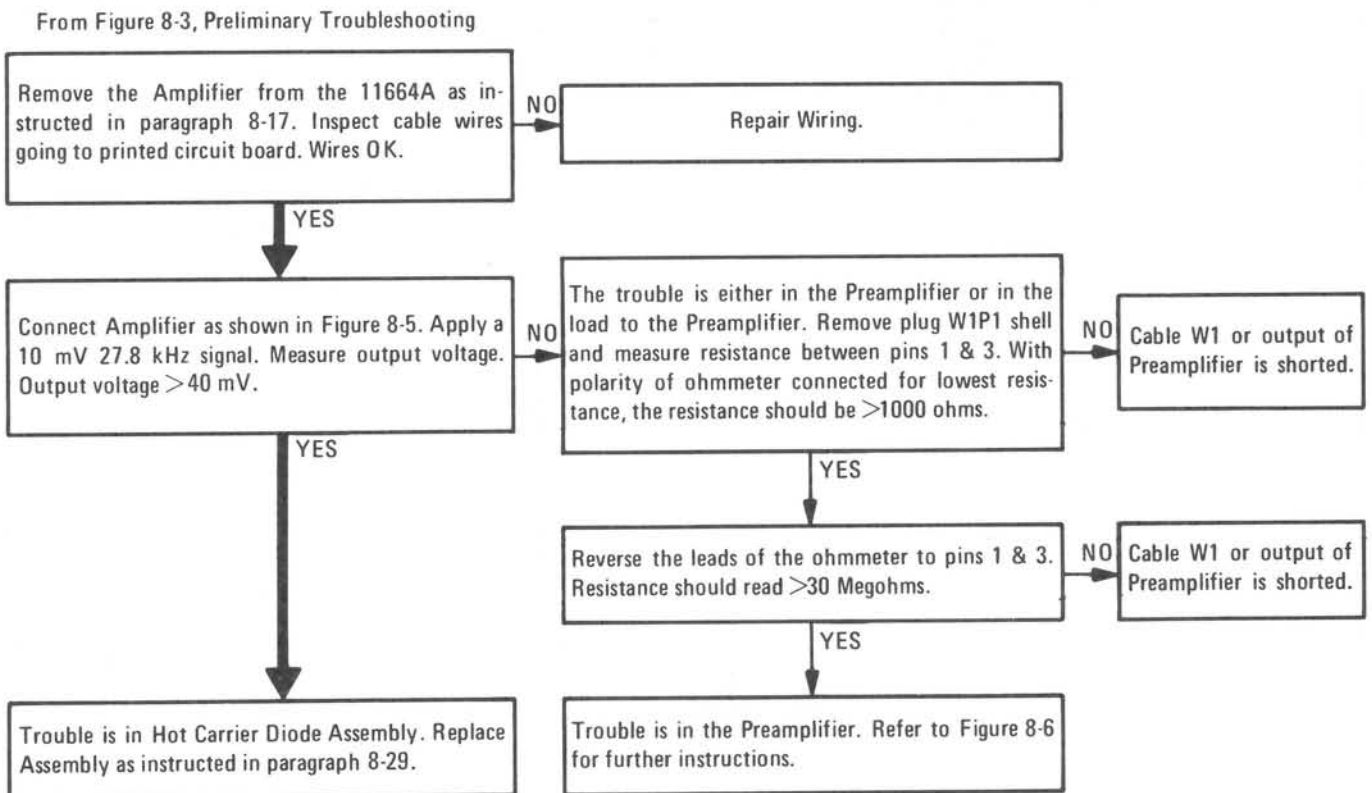

Figure 8-4. Isolating Trouble to A2 RF Assembly or A1 Preamp
b. Isolate the trouble to either the RF Assembly or the Amplifier using the procedures in Figure 8-4.